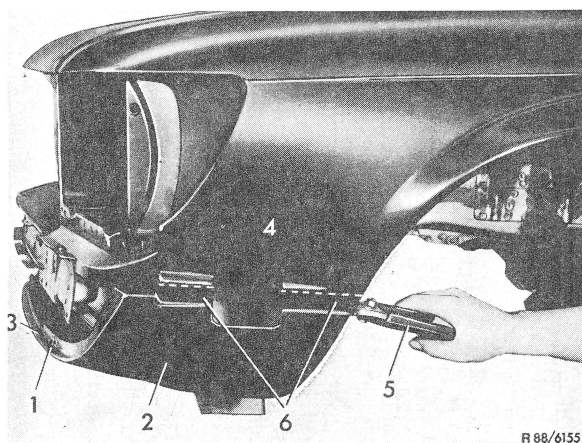

Fig. 1
- 6 Loosen screw connection (1) of fender bottom (2) and molding (3) between front fender (4) front center (Fig. 1).